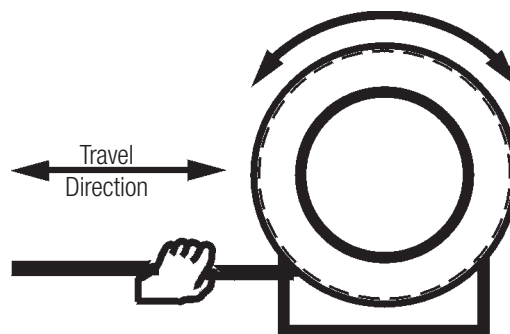

Figure 4-18 View from Outer Flange
- 4.13.1.2 This is accomplished by pulling the cable out the required distance and allowing it to rewind. This procedure should be performed five to ten times. **See Figure 4-18.**